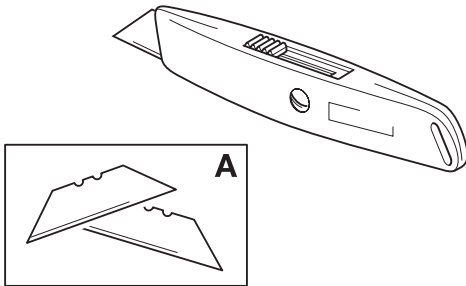

Fig 50. Craft Knife
- d Craft Knife. → Fig 50. (□ B-53). The blades 50-A are replaceable.